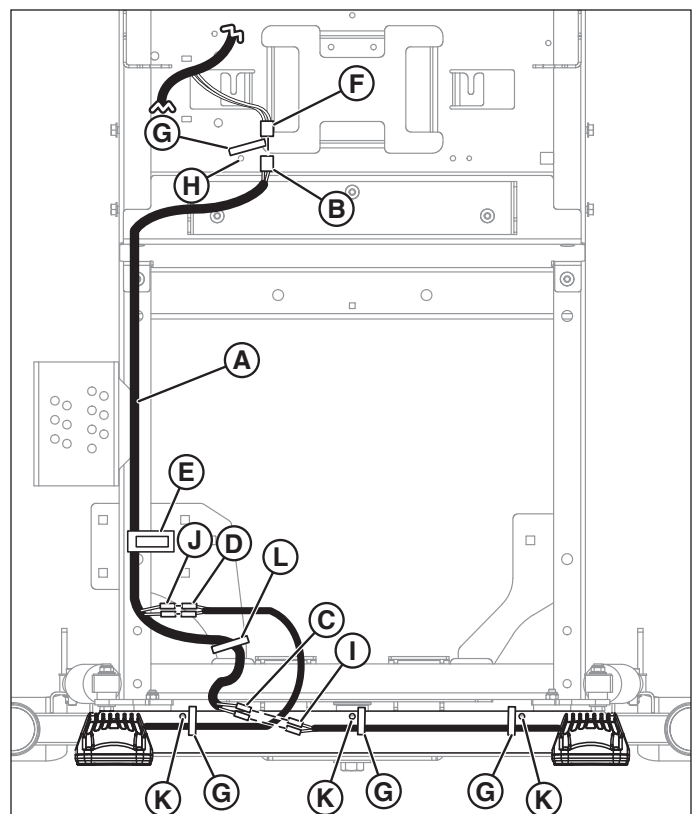

Figure 6. Install the Wire Harness (Machine depicted with components hidden for clarity)
14. Put the wire harness (**A**, **Figure 6**) in the machine.